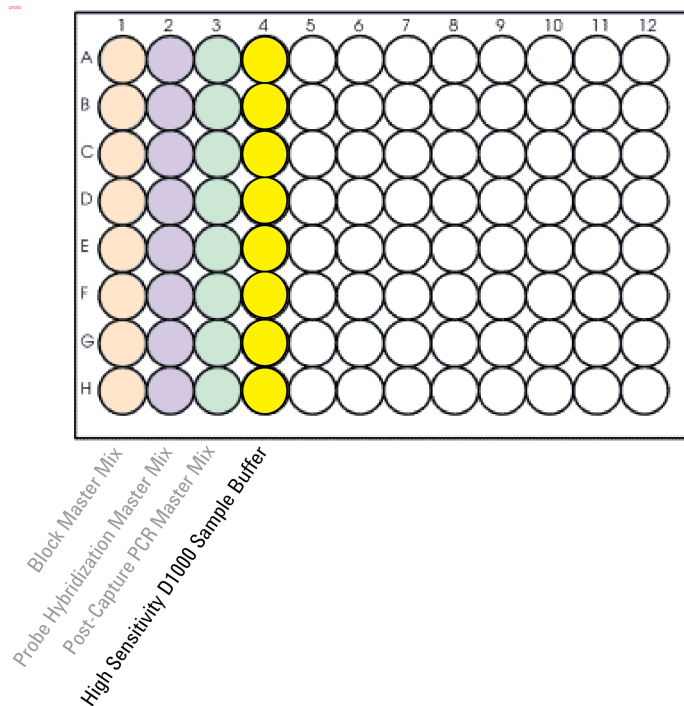

Figure 16 Configuration of the source plate for protocol 12 TS_HighSensitivity_D1000. Columns 1–3 were used to dispense master mixes during previous protocols.
- 4 Using the same master mix source plate that was used for the **10 Post-CapPCR_XT_HS2_ILM** protocol run, prepare the Sample Buffer source plate at room temperature. Add the volume of High Sensitivity D1000 Sample Buffer indicated in Table 76 to each well of column 4 of the plate. The final configuration of the sample buffer source plate is shown in Figure 16.